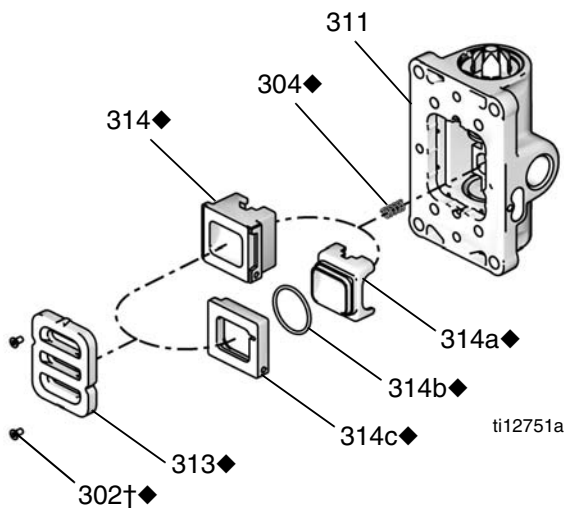

FIG. 6: Air Plate Removal
2. See FIG. 6. Use a 2 mm or 5/64 hex key to remove two screws (302†◆). Remove the valve plate (313◆).